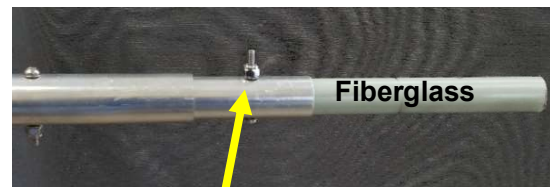

FIGURE 21
□ **STEP 6.19** Place the element plate flat on surface, then lightly rotate element sections A1/B1 until input terminals are parallel to the element plate, as shown in **FIG. 20**. After rotation, module mounting posts near each end of sections A1 and B1, should both be facing upward - shown in **FIG. 21**. Loosen bottom HEX nuts to rotate terminals, if necessary for rotation. Secure nuts temporarily using anti-seize stick (11301).